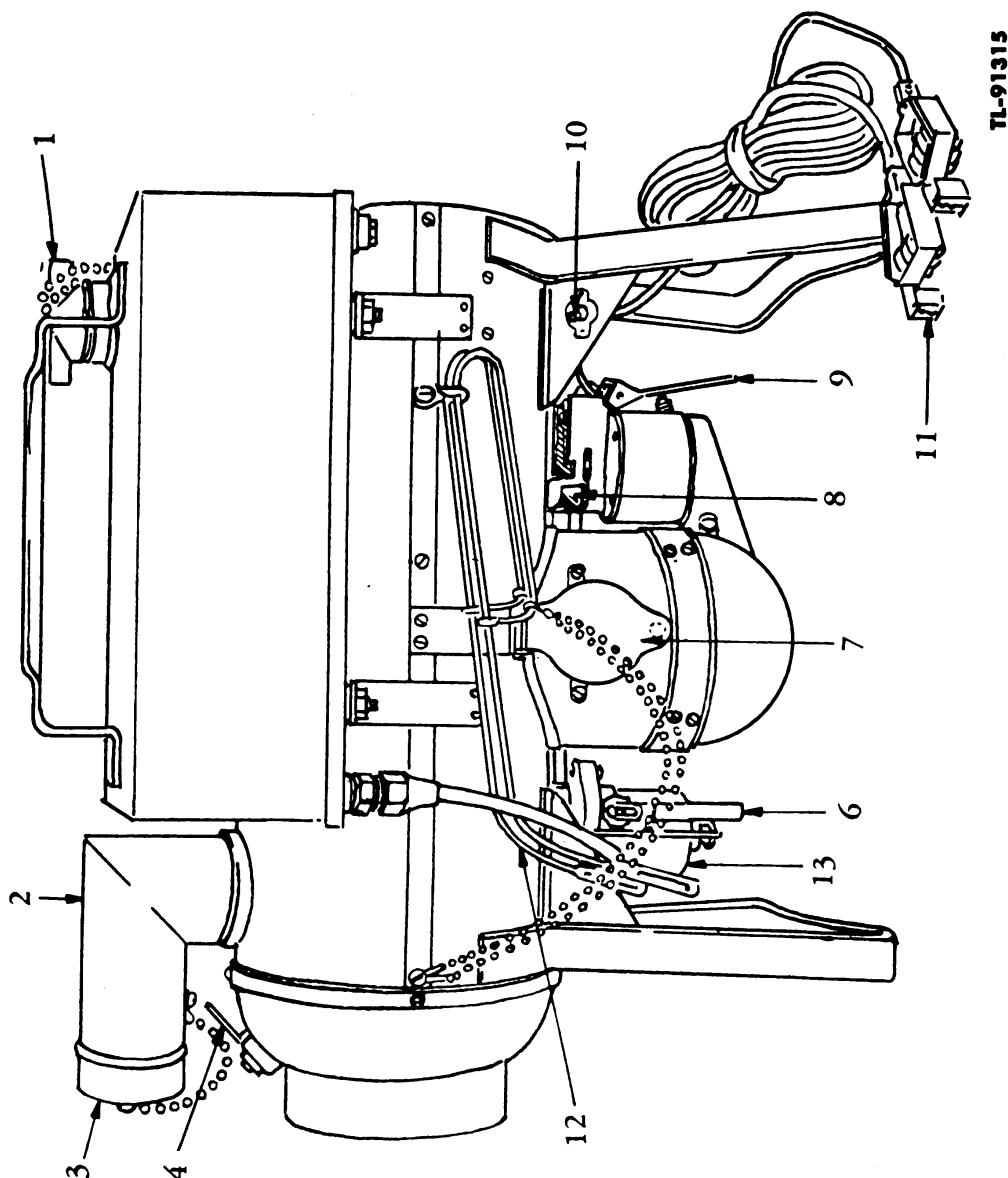
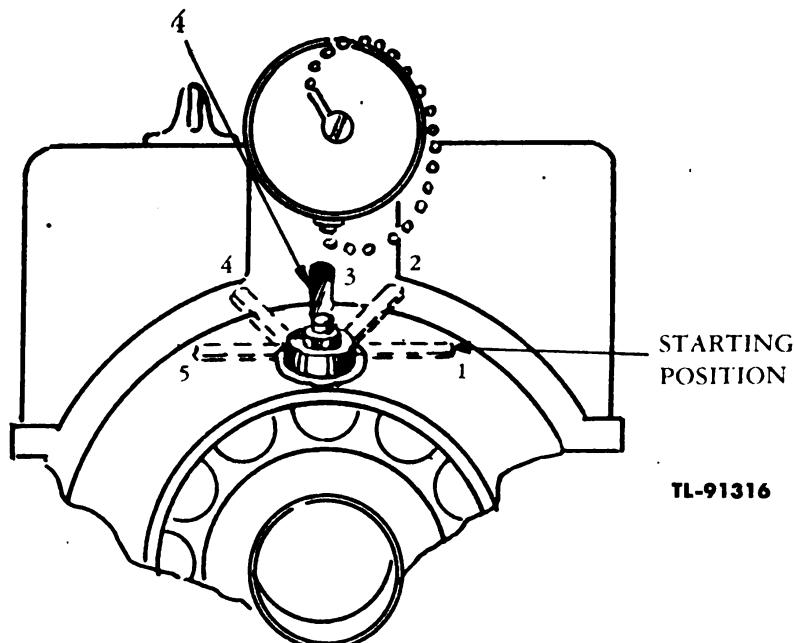

Figure 4. Left side of heater showing controls.
Figure 5. Thermostat adjustments.
8. LIGHTING HEATER (figs. 4 and 5).
- m. When fuel is burning, turn motor switch (10) ON.
- o. Raise metering-valve lever (9) until it stays in raised position.
- p. After 5 minutes of heater operation, turn thermostat lever (4) to No. 5 position.
- q. After 5 minutes more of heater operation, turn thermostat lever to No. 3 position, which is the normal operating position. In extremely low temperatures move thermostat lever to No. 2 or No. 1 position (fig. 5).
- (1) No. 1 position is maximum heater output.
- (2) No. 3 position is medium heater output.
- (3) No. 5 position is minimum heater output.
- r. The heater is now fully adjusted and will operate automatically. The temperature of the heated air is controlled by the thermostat. To increase heater output, move thermostat lever (4) to No. 2 or No. 1 position. To decrease heater output, move thermostat lever to No. 4 or No. 5 position.
9. SHUTTING OFF HEATER (fig. 4). To shut off heater proceed as follows:
- a. Pull out on lever (6).
- b. When burner goes out, push down on lever (8) and the metering-valve lever (9) will then snap down.
12. SAFETY SHUT-OFF (figs. 4 and 7). The safety shut-off on the heater is a safety device used to prevent the heater from being damaged by excessive heat caused by motor failure, obstruction over air outlet, obstruction over air inlet, or for any other reason. The safety shut-off lever operates by temperature, and when the temperature becomes too great, it acts to release lever (8) and cause metering-valve lever (9) to snap closed and shut off all fuel going to burner. When this occurs, it is necessary to allow heater to cool, determine and correct condition which caused safety shut-off to operate, and then relight burner as described in paragraph 8 above.
- a.** For low outside temperature, turn safety shut-off adjusting lever (14) to upper position.
13. ADJUSTING HIGH FIRE (figs. 5 and 8). The high fire on the heater is factory adjusted and calibrated and should not require any further adjustment in the field. However, upon rare occasions when it may be necessary to adjust the high fire, proceed as follows:
- a.** Light heater and allow heater to operate for about 15 minutes with the thermostat (4) set at No. 3 position.
- c.** Insert a small nail or stiff wire into the high-fire adjusting screw (15).
14. ADJUSTING LOW FIRE (figs. 5, 8, and 11). The low fire of the heater is factory adjusted and should not require any further adjustment in the field. However, upon rare occasions when it may be necessary to adjust the low fire, proceed as follows:
- a.** Light heater and allow heater to operate for about 15 minutes with the thermostat lever (4) set at No. 3 position.
- c.** Insert a small nail or stiff wire into the small hole in the metering valve (63) to keep metering valve from turning.
- d. Place a small open-end wrench on the low-fire adjusting nut (17).
- h. The low fire should be adjusted so that top of flame just touches flame spreader (57) in burner.